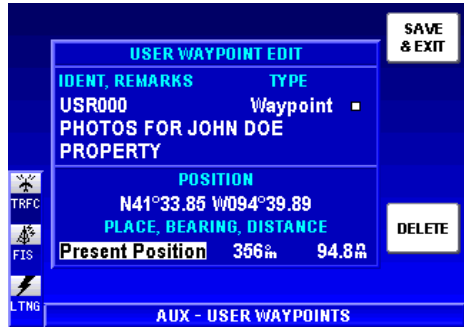
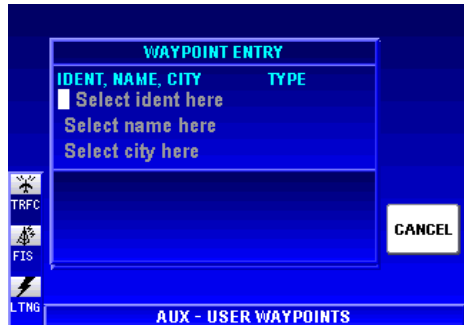

Figure 1-75
Figure 1-76
13. The second way to enter the position of a waypoint is by entering the bearing and distance from a known position, such as an airport or navaid. This is done by first using the Joystick to place the cursor over **Present Position** as shown in Figure 1-75. Turn the Rotary Knob one increment to display the **WAYPOINT ENTRY** window as shown in Figure 1-76.